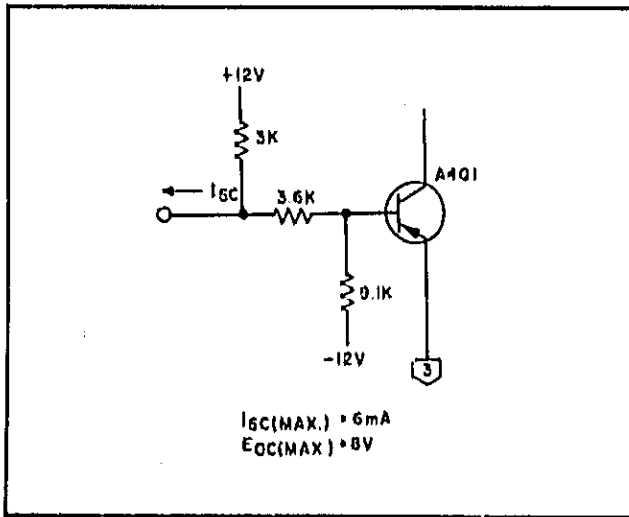

Figure B-3. Cable Continuity Interlock Receiver Circuit
B-30 Cable Continuity Interlock Receiver Circuit. Figure B-3 shows the cable continuity interlock circuit. The three input voltage divider resistors are selected so that a (3) common input will cause A4Q1 to saturate and an open (no input connection) will cause A4Q1 to cut off. The maximum current (I_{SC-MAX}) that could be drawn from the input circuit when the input terminals are short circuited is 6mA. The maximum voltage (E_{OC-MAX}) that appears across the input terminals under open circuit conditions is 8V.